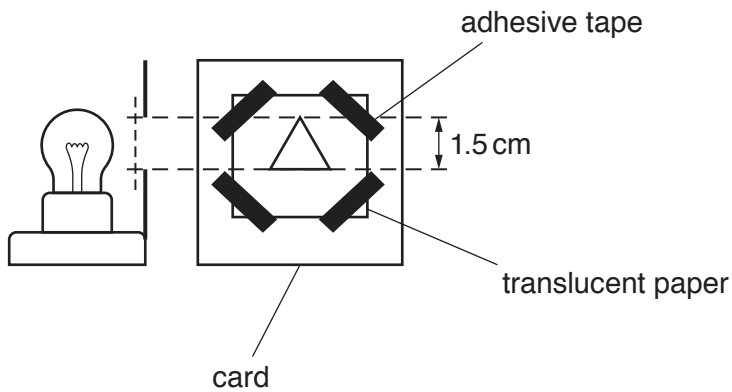

Fig. 2.1
- (iii) Illuminated object consisting of rigid card with a triangular hole of height 1.5 cm (see Fig. 2.1). The hole is to be covered with thin translucent paper (e.g. tracing paper) secured with adhesive tape. See note 2.